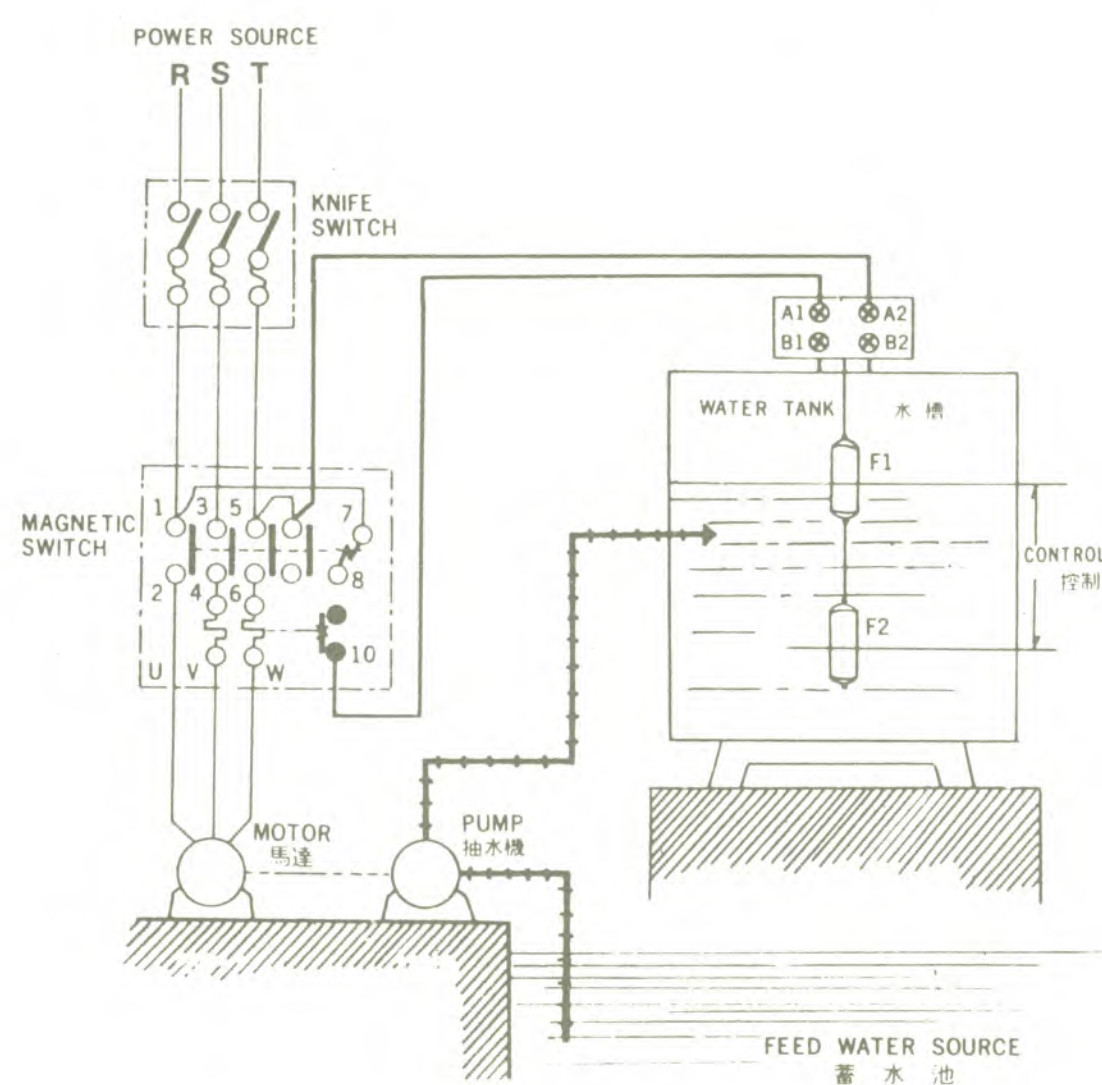

Fig. 1
- 1) For feed water operation, connect as Fig. 1.